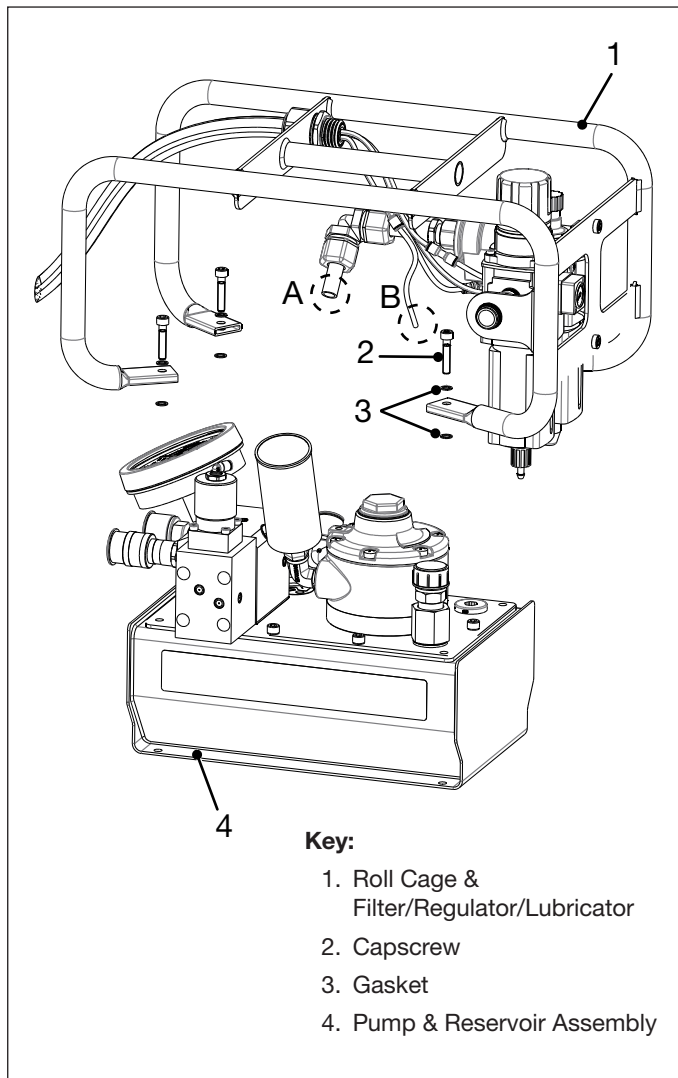

Figure 13: Reservoir Inspection & Cleaning (View 1 of 2)
4. Remove four cap screws and washers. Carefully lift roll cage and air filter/regulator/lubricator off of the hydraulic reservoir as an assembly. See Figure 13.